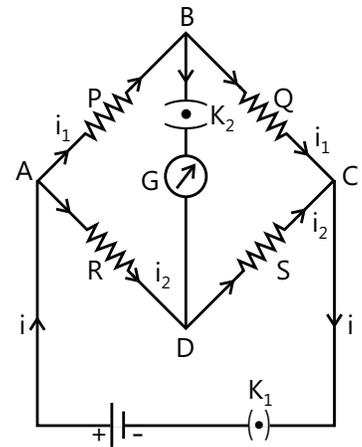

Figure 27.21
**Principle:** A meter bridge works on the principle of Wheatstone's bridge. As shown in the Fig 27.21, it consists of four resistors P, Q, R and S connected in the form of a network ABCD. The terminals A and C are connected to two terminals of a cell through a key  $K_1$ . Terminals B and C are connected to a sensitive galvanometer G through a key  $K_2$ .
We use this relation to determine S, as P, Q and R are known. The unknown resistance S is connected in the gap E and a resistance box ( $R_{BOX}$ ) in gap F of the meter bridge. The terminal B is connected to one terminal of the galvanometer G. The other terminal of the galvanometer is connected to a jockey J which slides along the wire AC. A source of dc voltage is connected between A and C through a key  $K_1$  so as to provide a constant potential drop along AC (Fig 27.21).
- Set up the circuit as shown in Fig 27.21 with unknown resistance wire of known length in gap E.